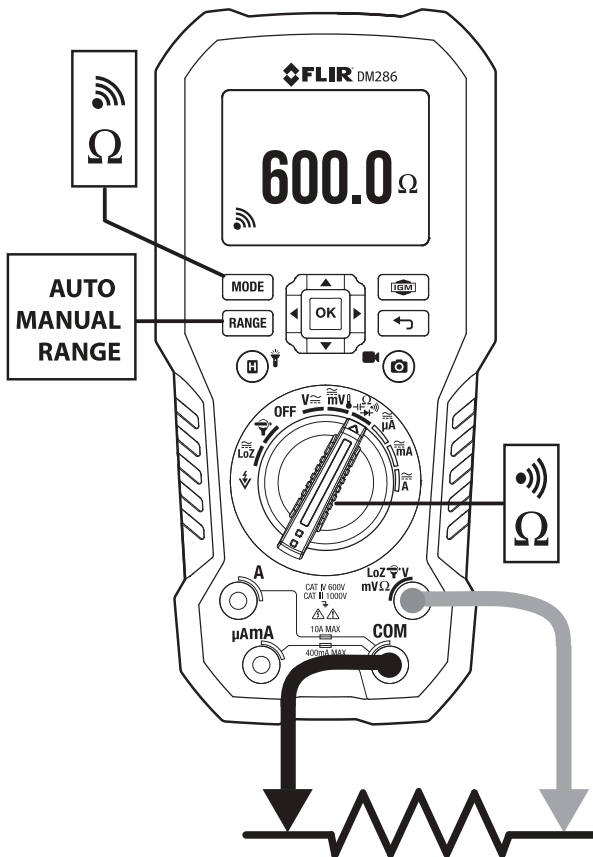

Fig. 9.5 Resistance and Continuity Measurements
1. Refer to **Fig. 9.5**. Set the function switch to the Ω position.
1. Refer to **Fig. 9.5**. Set the function switch to the  position.